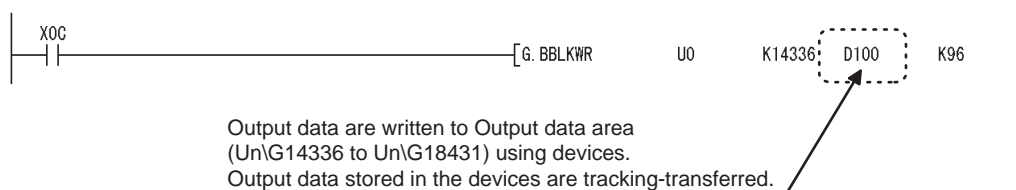

Figure 7.29 Processing of the QJ71PB92V in the Control System (Before System Switching)
- (1) Figure 7.29 is an example for using a dedicated instruction.
- (2) When using the automatic refresh, output data in the specified auto-refresh target devices are tracking-transferred.